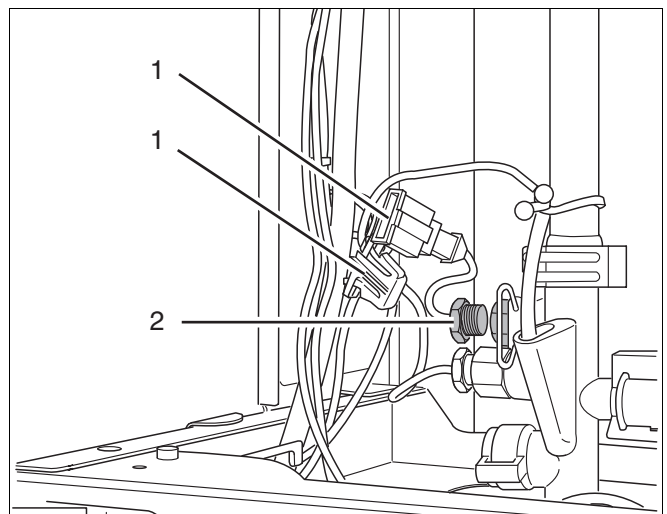

Fig. 62 Buderus 600 - 11R / 19R / 24R: replacing the flow sensor
- Loosen the plug-in connection (fig. 62, item 1).
- Unscrew the sensor (fig. 62, item 2) and replace with a new unit.